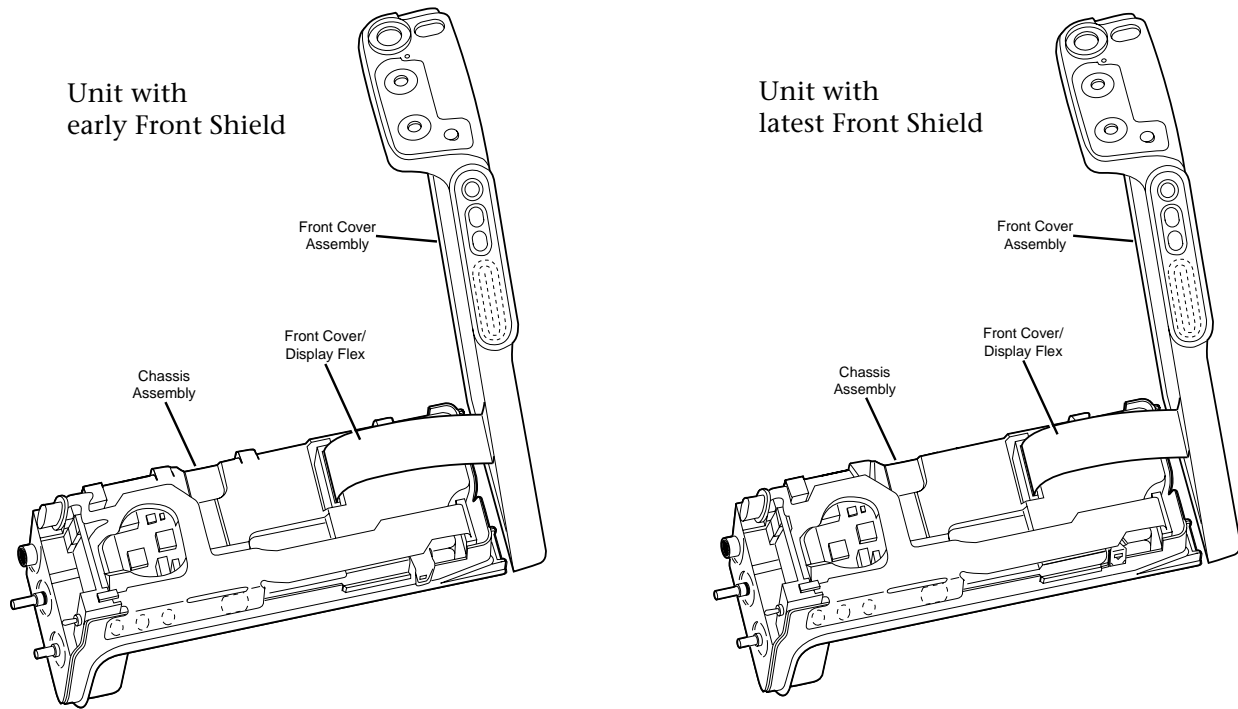

Figure 6 Rotating the Front Cover
- c. Lay the chassis down, and rotate the front cover back and partially away from the chassis (see Figure 6).
2. Orient the front cover assembly with the chassis, and insert the front cover/display flex connector into the locking connector of the controller board (refer back to Figure 6). Secure the connection. View the flex connection at a slight angle from the top of the radio and ensure that the flex connector is fully seated into the locking connector as illustrated in Figure 7.